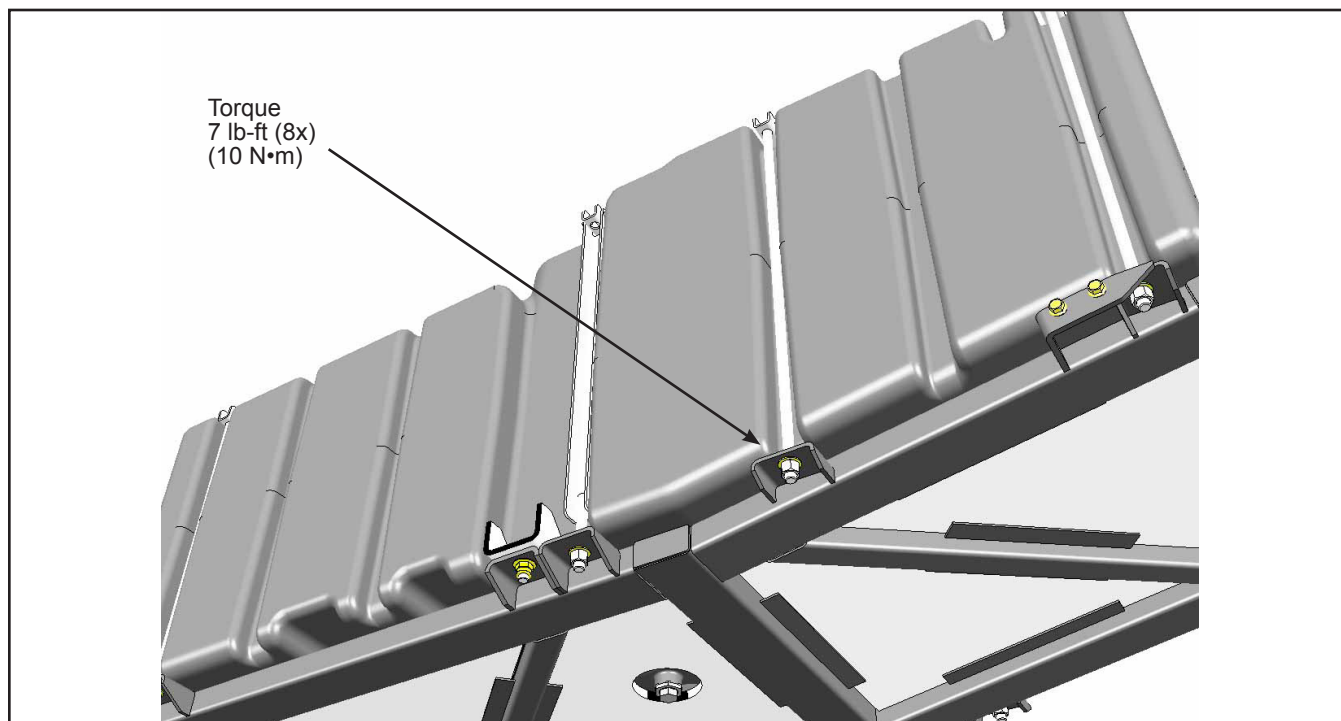

Figure 5 - Assembly and Torque
- 1.9. Affix the anchor rods and the $\frac{1}{2}$ rods with N26738 flat washers and N75697 lock nuts. Tighten to the torque specified in Figure 5.